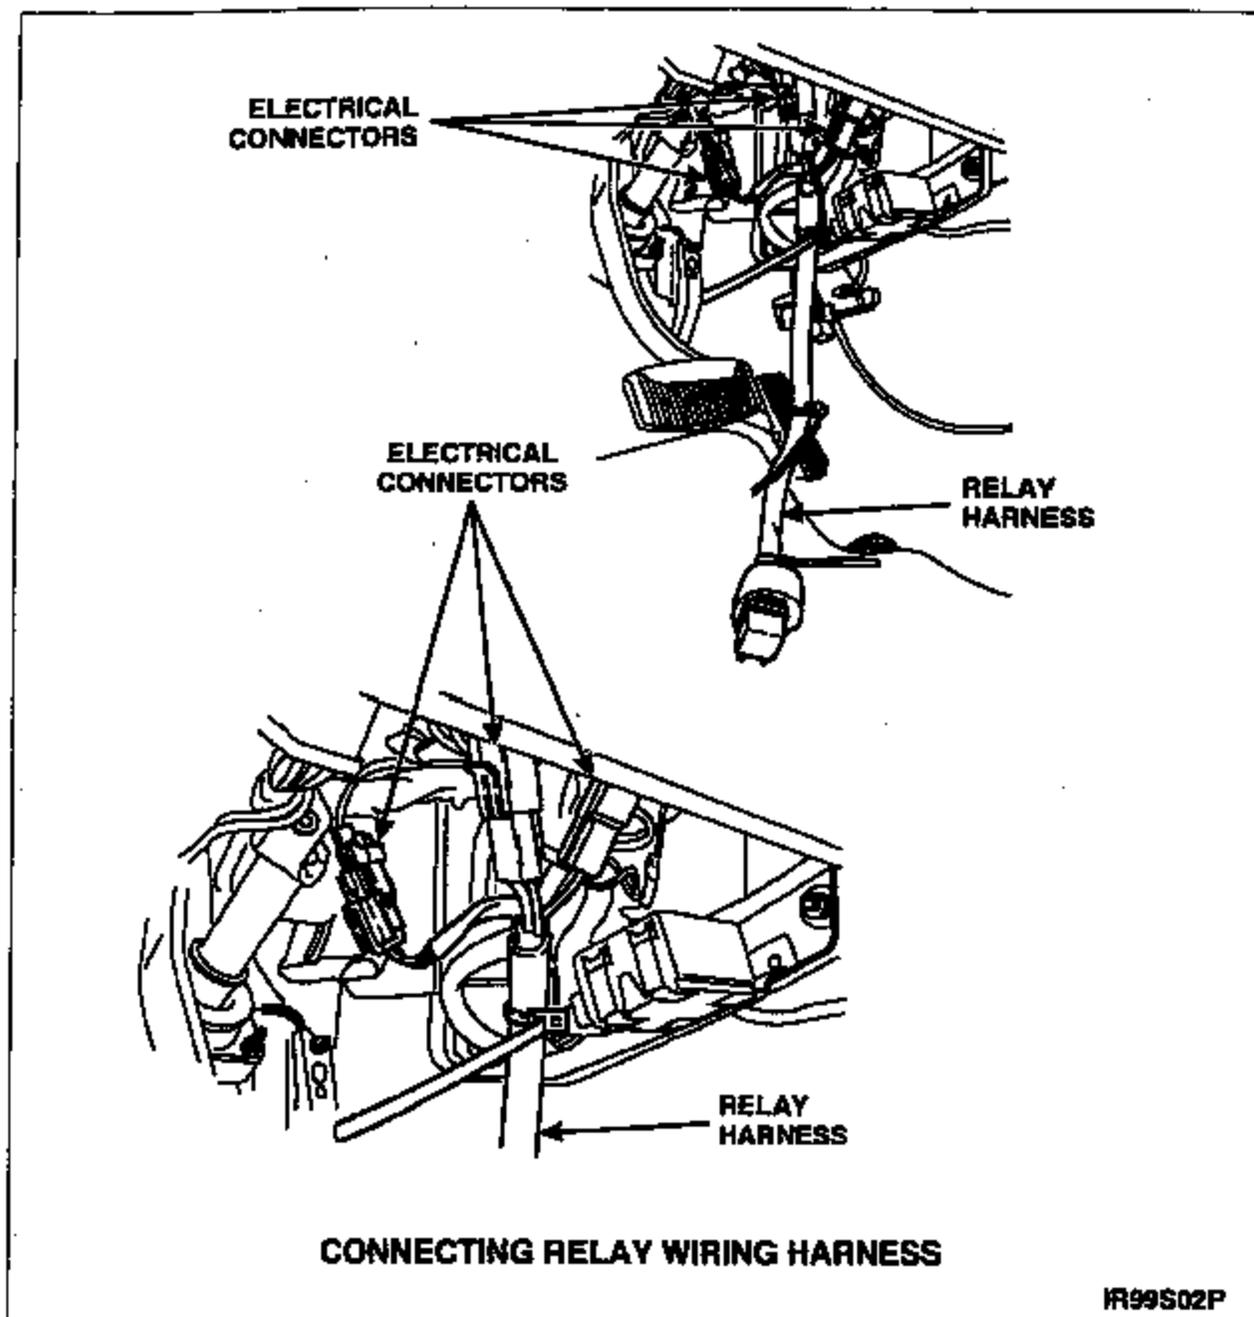

FIGURE 16
27. Connect the relay harness to the three (3) open electrical connectors. Connector halves will only mate with their correct opposite halves. See Figure 16.